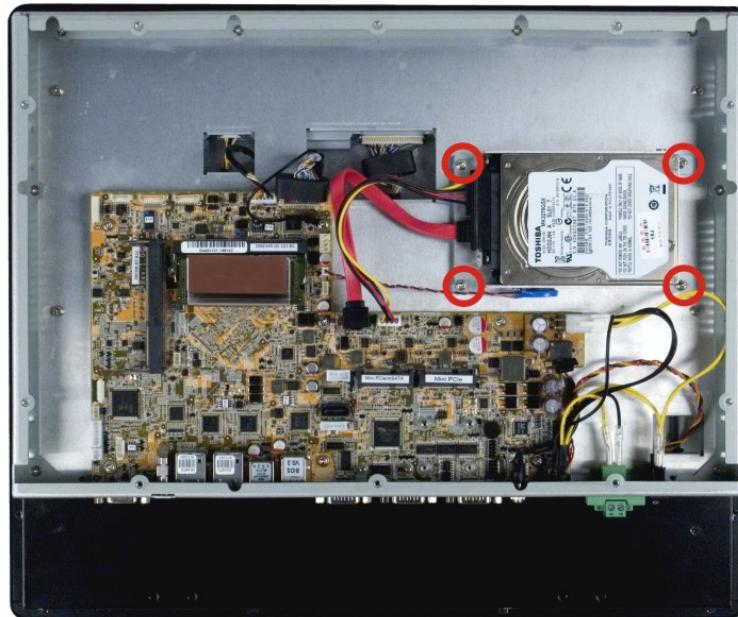

Figure 3-7: PPC-F17B-BTi HDD Installation
Step 5: Reinstall the HDD bracket into the PPC-F12B/15B/17B/19B-BTi and fasten the four hard drive bracket screws (**Figure 3-7**) Connect the SATA and SATA power cables.